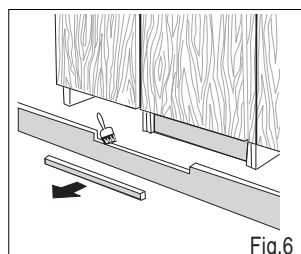

Fig.6
3. If so, rest the bottom edge of the panel on the base moulding and mark the part to be cut. Leave at least 3 mm of the play between the panel and the base moulding to allow for the door to rotate freely (Fig.6).